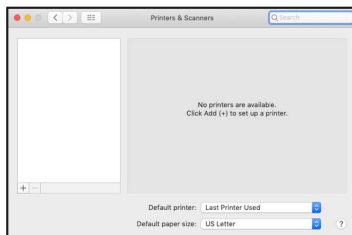

Figure 19
2. The **Printers & Scanners** screen will appear. From the **Printers & Scanners** screen, click the + icon, located on the left-hand side of the screen. (Figure 19)